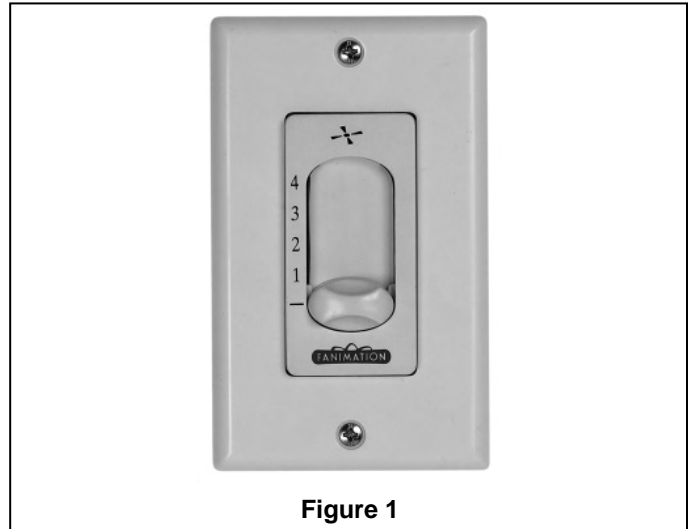

Figure 1
1. Carefully slide the blade through the slot as shown. (Figure 1)